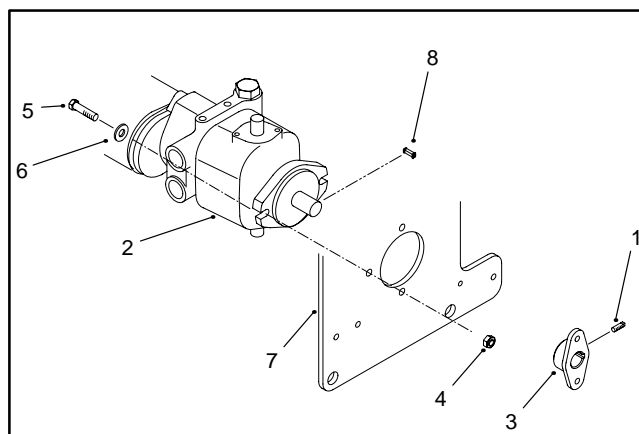

Figure 27
A. Loosen both set screws securing the hydrostat shaft to the hub (Fig. 27).
E. Remove both locknuts, cap screws, and flat washers securing the hydrostat to the pump plate. Be careful not to lose the key (Fig. 27).
A. Apply antiseize lubricant to the key and install into hydrostat shaft. Slide shaft and key into hub (Fig. 27).
B. Secure hydrostat to the pump plate with both flat washers, cap screws, and locknuts. (Fig. 27).
F. Secure hydrostat shaft to the hub by tightening both set screws (Fig. 27).